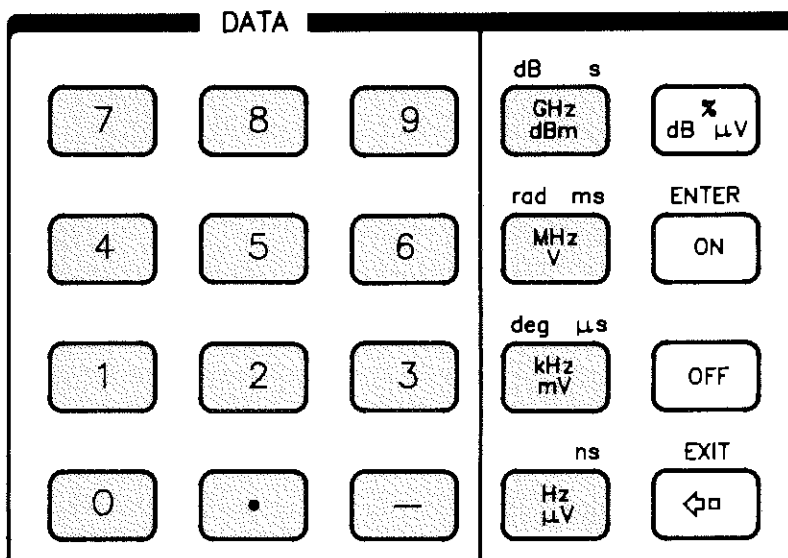

Figure 3-3. Data Keys for Start, Stop, Center, and Span.
- Use the front-panel DATA keys shaded in figure 3-3: